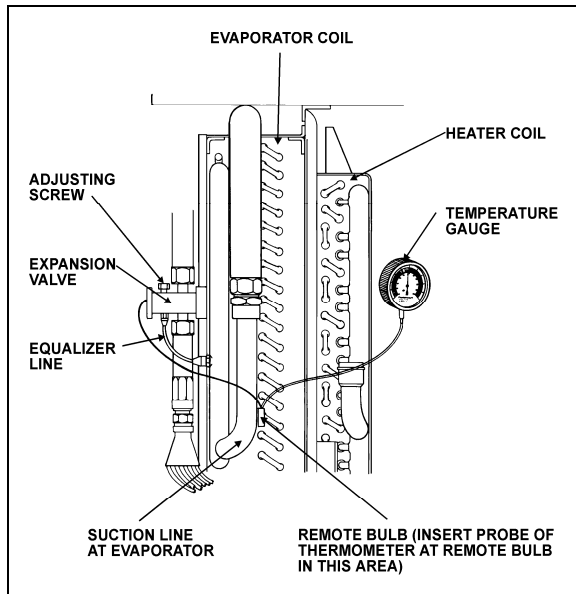

FIGURE 36: SUPERHEAT ADJUSTMENT INSTALLATION 22046
The starting method of adjusting the superheat is to unscrew completely the main evaporator expansion valve adjusting screw, then screw in 13 turns clockwise for 134A (Fig. 36). Afterwards, the following procedure should be followed:
3. Install a remote reading thermometer to the evaporator outlet line near the existing remote bulb (Fig. 36).